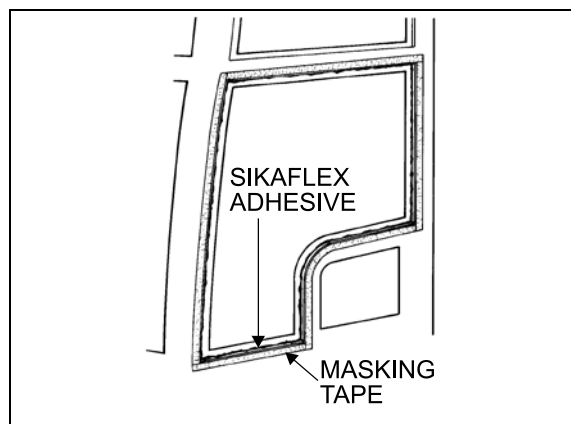

FIGURE 46: ADHESIVE-MOUNTED WINDOW
6. Confirm that both latches are in the closed (latched) position. The upper edge of the latch opening must be aligned with upper edge of the sash opening (Figure 46)